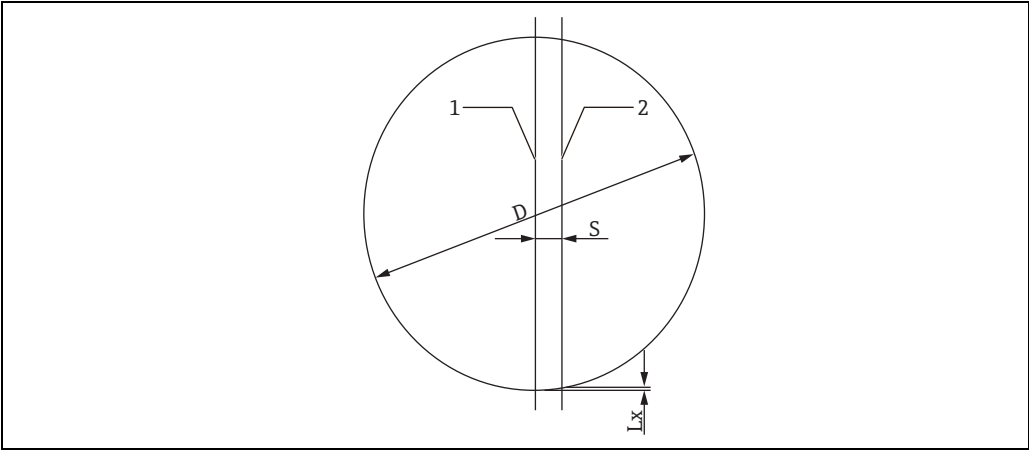

Figure 50: Setting indicator of spherical tank
- When handle reaches the A position, shown in Figure 50, the float is freed from the handle. Remove the handle while float is in use.